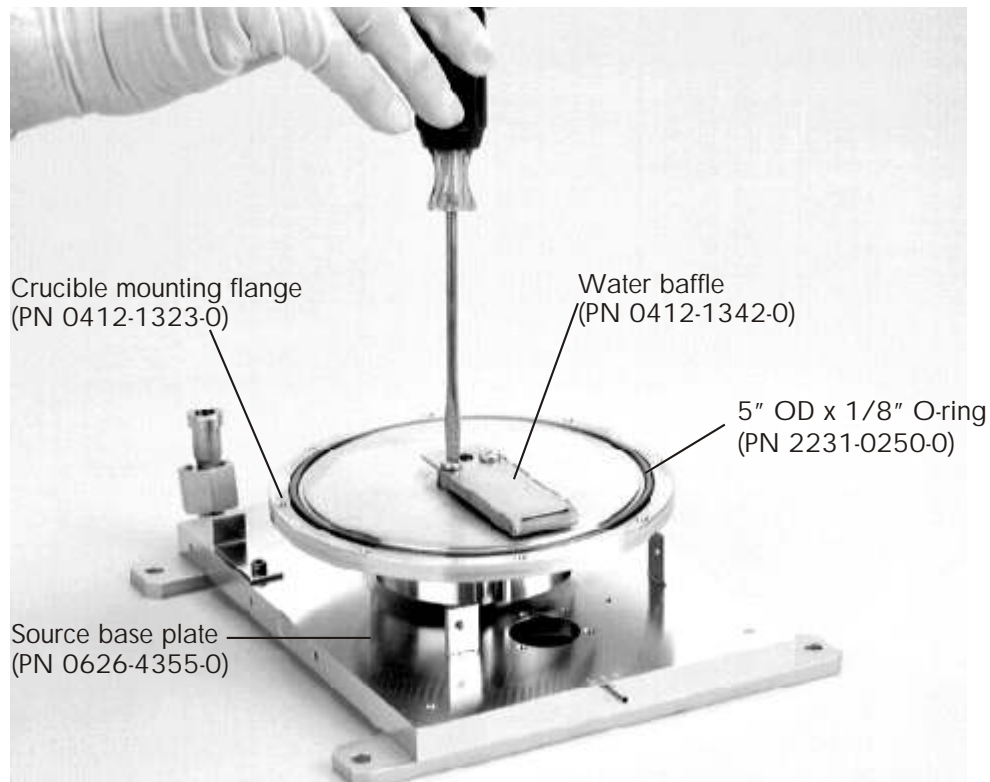

Figure 5-12. Removing the water baffle
- Step 24. Remove the two 8-32 \times 1/4-in. screws that secure the water baffle to the pivot shaft and remove the water baffle (see Figure 5-12).